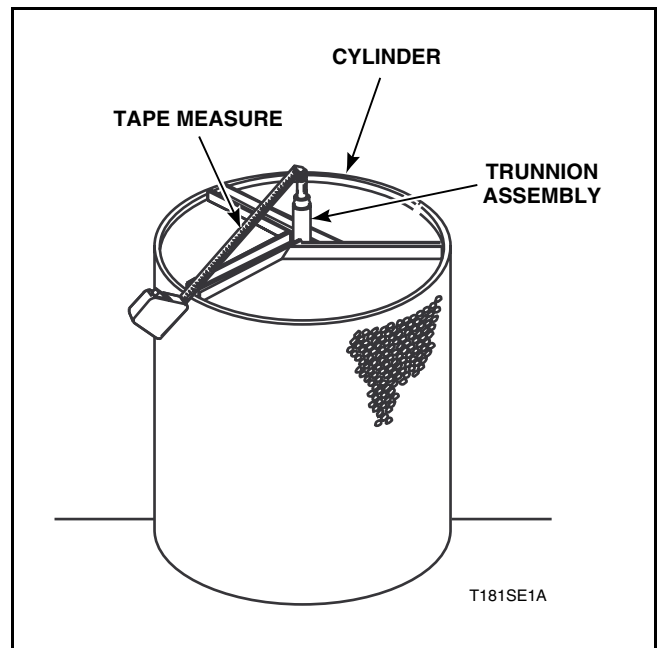

Figure 44
Refer to *Figure 44*.
**IMPORTANT:** When installing trunnion assembly on cylinder, the cylinder and shaft must be leveled. Refer to *Figure 44* for an example of how to check for proper alignment of the shaft and cylinder. Measure the distance between the center of the trunnion shaft and the outer rim of the cylinder at the points shown. If any measurement is lower than the highest point, place shim(s) (M401402) between trunnion channel and cylinder back until the measurement is equal to the highest point.